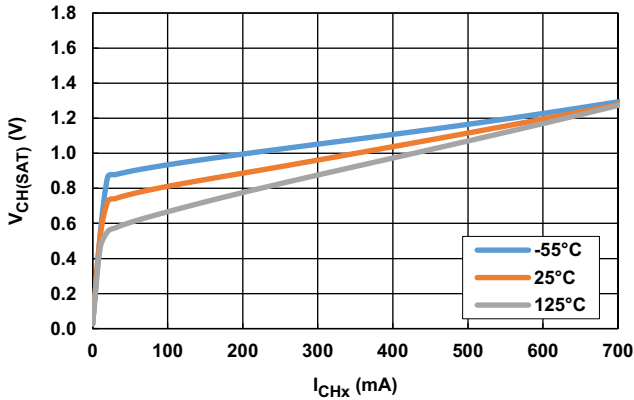

Figure 9. $V_{CH(SAT)}$ vs I_{CHX} vs Temperature
6. Note: The performance curves shown in Figure 9 on page 13 were taken using the evaluation board and a Keysight B2902A precision source/measurement unit. Test conditions:
- c. Channels CH0, CH8, CH16, CH24, and CH31 were measured. The plots in Figure 9 are the average of these channels.